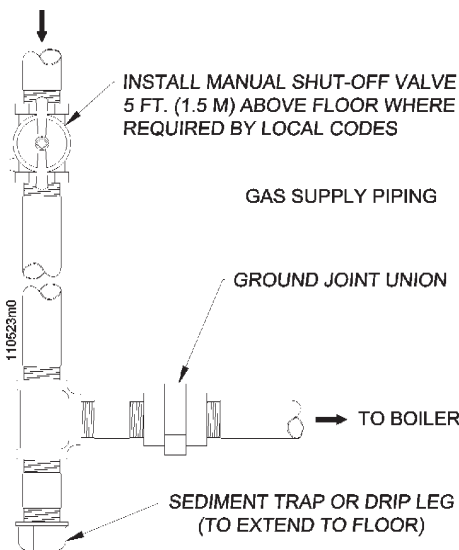

Figure 15 - Gas supply piping
- ☞ Install a manual gas shutoff valve and drip leg as shown in Figure 15.